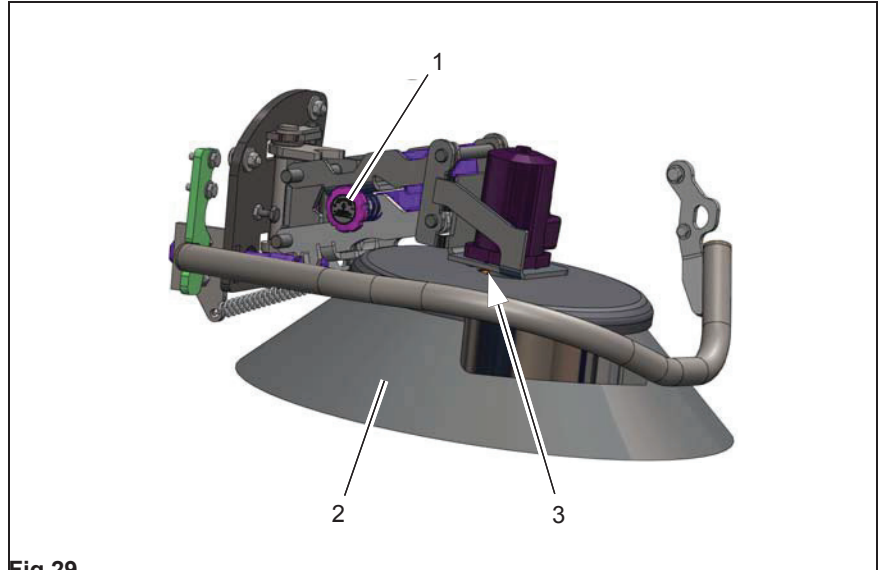

Fig.29
Check the side brushes (Fig. 29/2) every week for signs of wear. In the event of wear or after the side brushes have been changed, proceed as follows to complete the necessary adjustments:
2. Adjust the contact surface of the side brush (Fig. 29/2) using the adjusting bolt (Fig. 29/1). The contact surface of the side brush should be approx.  $\frac{2}{3}$  of the brush circumference.
2. Loosen the screws and washers on the catch (Fig. 29/3) and remove the side brush (Fig. 29/2).